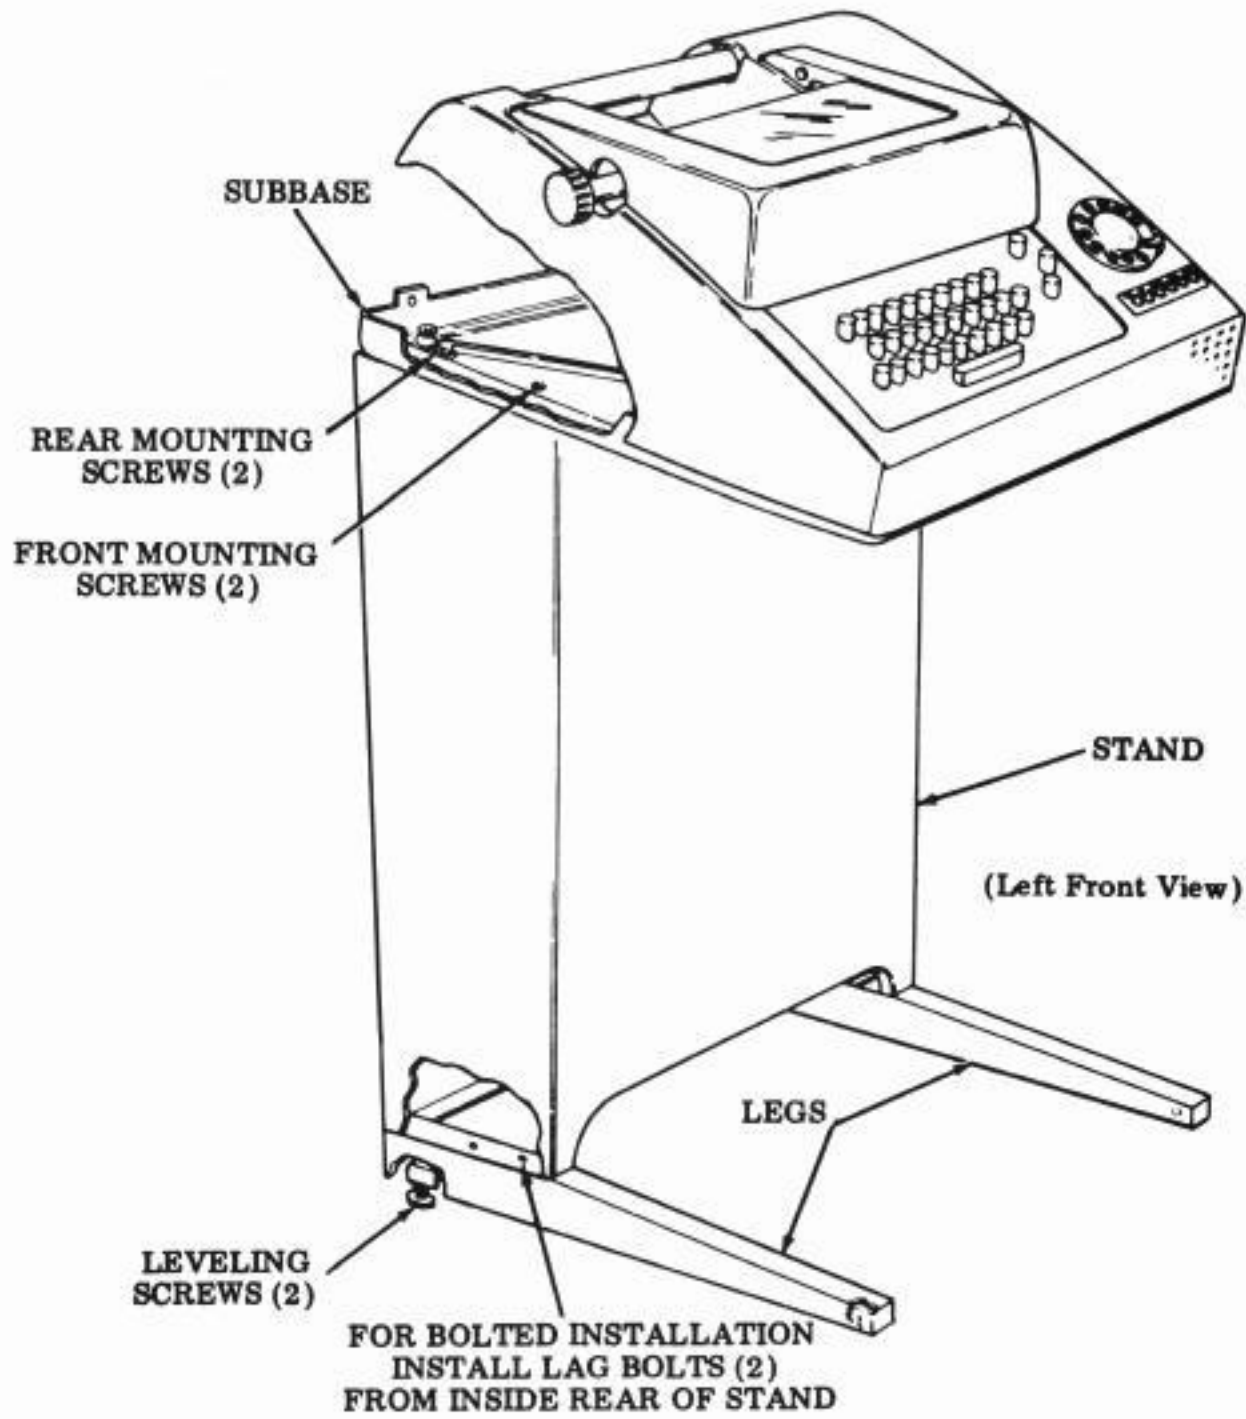

Figure 3 - Stand Leveling and Anchoring and Assembly of Subbase with Typing Unit to Stand
2.01 If the teletypewriter set is to be bolted to the floor, remove the front screw in each leg of the stand (Figure 3).
2.17 Figure 3 illustrates the facilities for leveling and anchoring the stand.